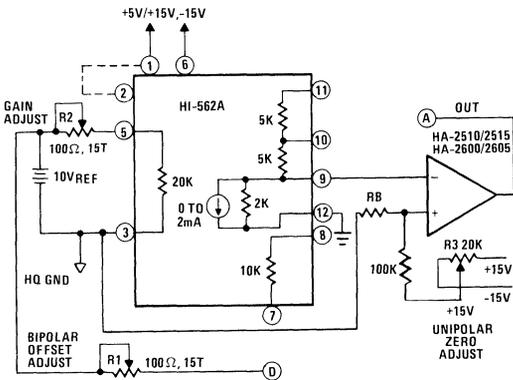

FIGURE 2.
- Using an external op amp with internal span resistors and specified external trim resistors in place of potentiometers R1 and R2. Errors are adjustable to zero using R1 and R2 potentiometers. (See Operating Instructions Figure 2.)
CONNECTIONS — Using an external resistive load, the output compliance should not exceed $\pm 1V$ to maintain specified accuracy. For higher output voltages, accuracy can be maintained by using an external op amp and the internal span resistors as shown in Figure 2 and defined in Table 1 for unipolar and bipolar modes.
External Gain and Zero Calibration (See Figure 2)
The input reference resistor (20K nominal) and bipolar offset resistors shown in Figure 2 are both intentionally set low by 50 Ω to allow the user to externally trim-out initial errors to a very high degree of precision. The adjustments are made in the voltage output mode using an external op amp as current-to-voltage converter and the HI-562A internal scaling resistors as feedback elements for optimum accuracy and temperature coefficient. For best accuracy over temperature, select an op amp that has good front-end temperature coefficients such as the HA-2600/2605 with offset voltage and offset current tempco's of 5 $\mu V/^\circ C$ in 1nA/ $^\circ C$, respectively. For high speed voltage mode applications where fast settling is required, the HA-2510/2515 is recommended for better than 1.5 μs settling to 0.01%. Using either one, potentiometer R3 conveniently nulls unipolar offset plus op amp offset in one operation (for HA-2510/2515 and HA-2600/2605 use R3 = 20K and 100K, respectively). For bipolar mode operation, R3 should be used to null op amp offset to optimize its tempco (i.e., short 9 to A and adjust R3 for zero before calibrating in bipolar mode). The gain and bipolar offset adjustment range using 100 Ω potentiometers is ± 12 LSB and ± 25 LSB, respectively. If desired, the potentiometers can be replaced with fixed 50 Ω (1%) resistors resulting in an initial gain and bipolar offset accuracy of typically $\pm 1/2$ LSB.